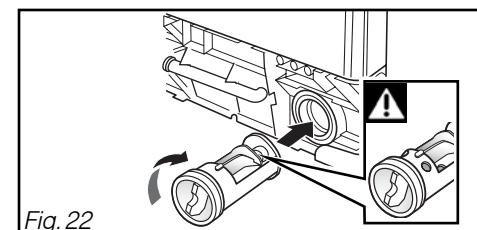

Fig. 22
- To replace it, insert it and point the small lug on the cylindrical surface upwards (Fig. 22).
- Screw the cap back on as far as it will go (Fig. 22).